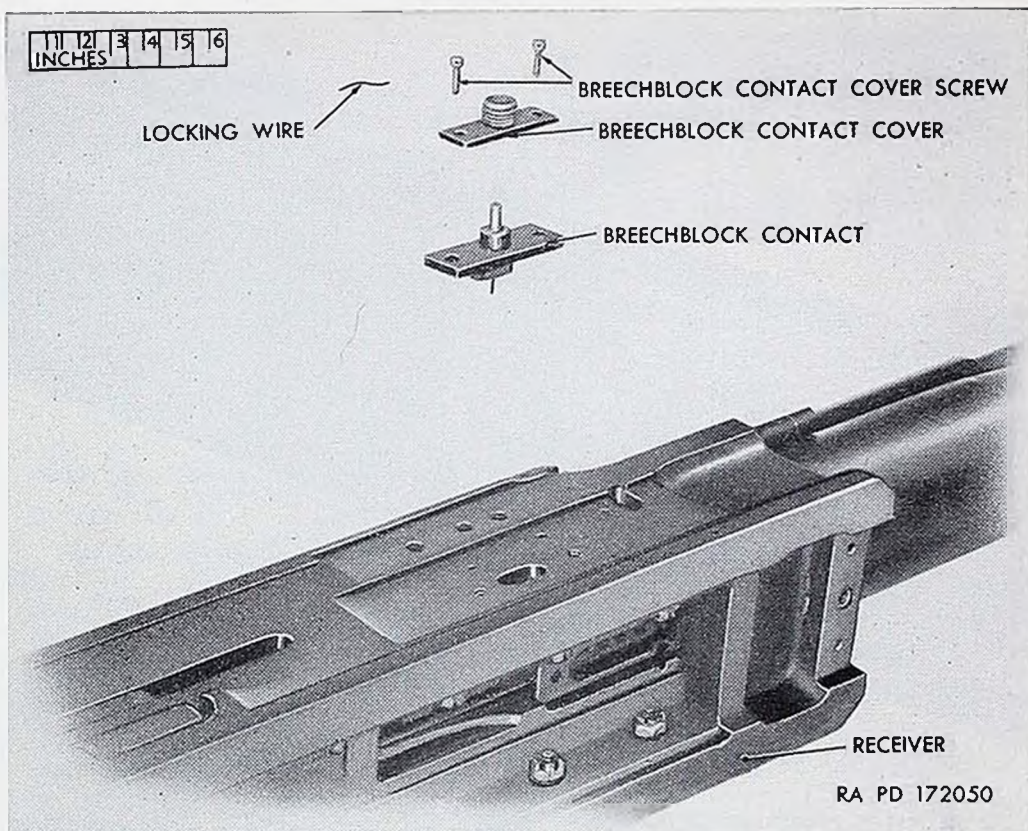

Figure 100. Breechblock contact parts—gun M24A1.
- (2) Remove the locking wire and two breechblock contact cover screws (fig. 100).
- (4) Remove breechblock contact cover and breechblock contact from outside receiver (fig. 100).
- (1) If the breechblock is already in the gun, first remove the guide plunger and driving spring or springs (par. 66a) and unlock the breechblock and move it to the rear (par. 70c).
- (2) Secure the breechblock contact and breechblock contact cover to receiver with the two breechblock contact cover screws (fig. 100).